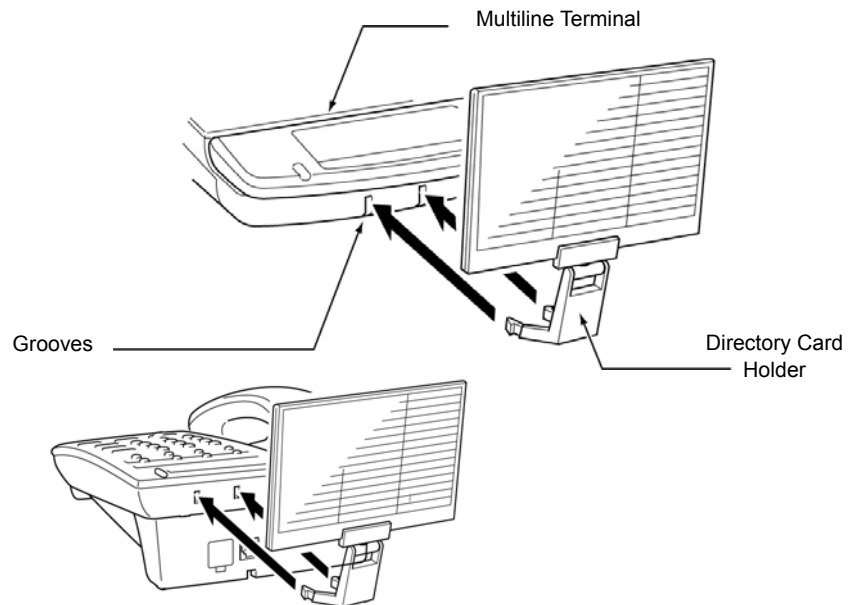

Figure 5-50 Attaching Directory Card Holder to the Multiline Terminal
2. Locate the two grooves on the top of the telephone as illustrated in Figure 5-50 Attaching Directory Card Holder to the Multiline Terminal. Push the directory card holder into the grooves on the Multiline Terminal until they snap into place.